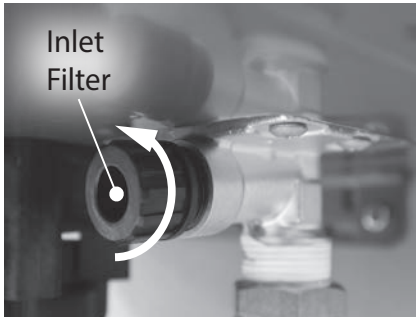

Figure 61 - Removing the inlet filter
- 8** Locate and remove the inlet filter as shown in Figure 61 to drain any residual water left in the system. Place a bucket or pan underneath inlet filter to collect water during removal.